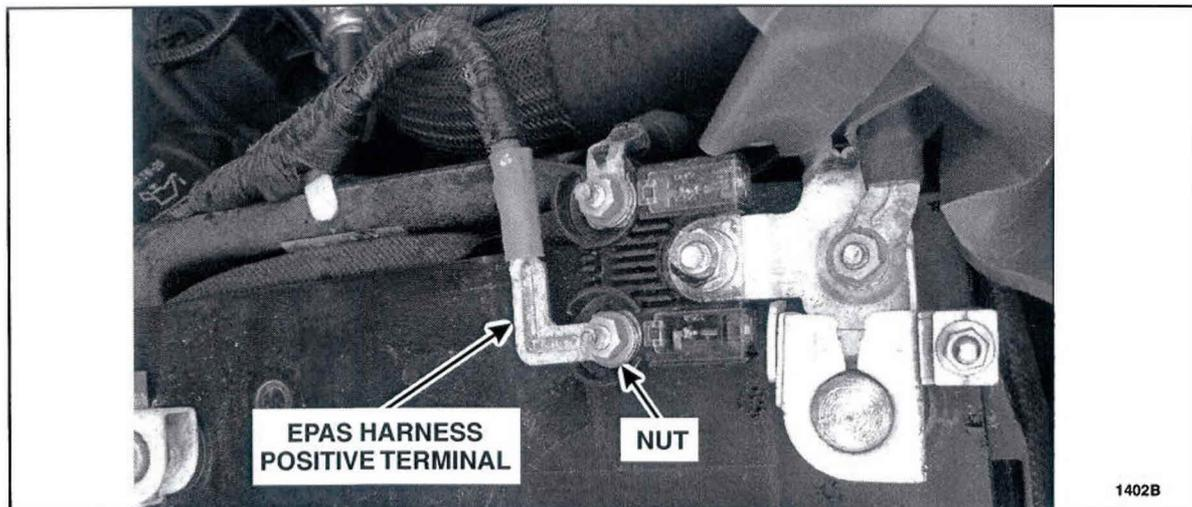

FIGURE 1
1. With the key in the OFF position, remove the EPAS harness positive terminal from the battery. See Figure 1.
1. Once in the service bay, reconnect the EPAS harness positive terminal to the battery prior to module configuration. See Figure 1.